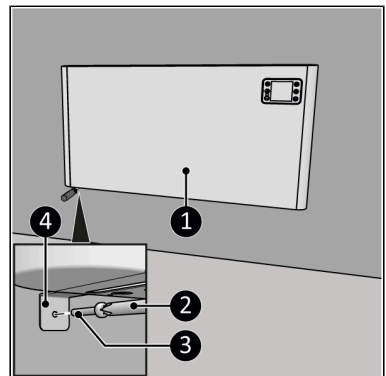

Figure 13.
14. Place the device (Figure 13, pos. 2) back on the wall brackets (Figure 13, pos. 1).
15. Screw and tighten the device brackets (Figure 13, pos. 4) with a large screw (Figure 13, pos. 3) to the wall using a Phillips screwdriver (Figure 13, pos. 2).